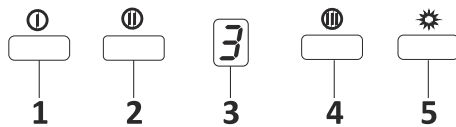

Fig. 15: 3 Spd Dig Button
1. ➤ Press this button to turn on the product. Product will also run on 1st speed level when this button is pressed. Fig. 15
2. ➤ Product will run on 2nd speed level when this button is pressed. Fig. 15
3. ➤ Dig display You can follow which speed the product is currently working on this display. Fig. 15
4. ➤ Product will run on 3rd speed level when this button is pressed. Fig. 15
5. ➤ Press this button to turn on and off the lamp. Fig. 15
6. ➤ Pressing and holding any of the motor operation buttons for more than 2 seconds will initiate a timer function of 15 minutes. A signal will be Displayed once the timer starts and the motor will stop automatically after 15 minutes. Fig. 15